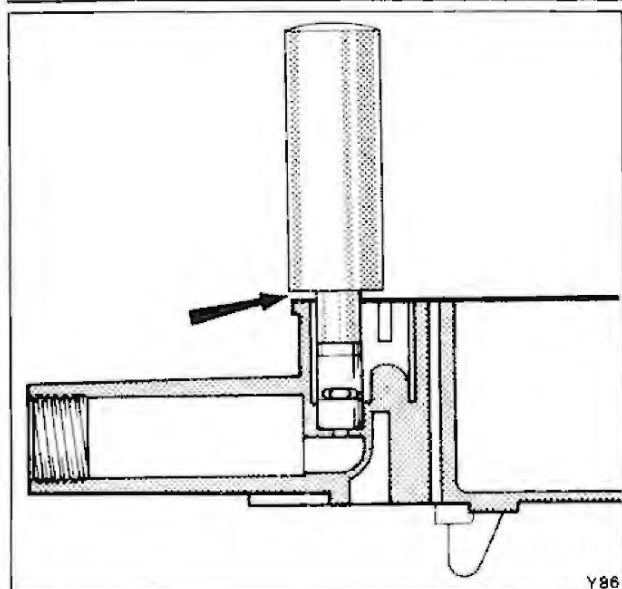

Fig. 1
- 3 Check the height of the valve seat in the carburetter housing (see fig. 1) with a mandrel. Should the face of the mandrel not rest flush with the surface of the carburetter housing, then the seat has loosened and will have to be removed. In some cases it is necessary to thread the seat using an 8mm screw. Blow out the seat housing in both directions and also the entire float chamber, then remove all traces of swarf or dirt.